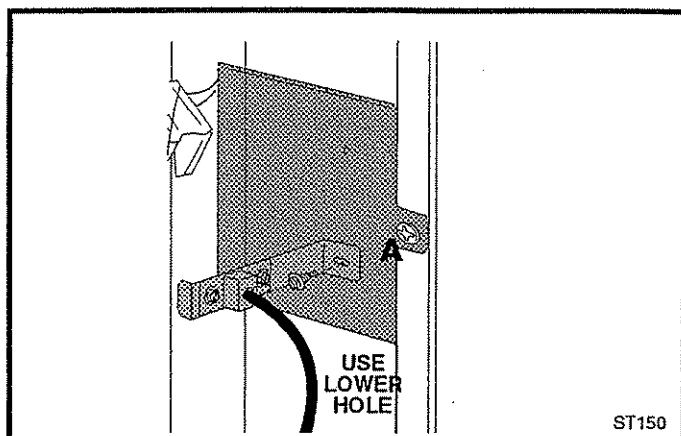

Fig. 21 Attach the snapstat bracket to the lower hole on the inside face of the side heat shield.
- 5. Attach the snapstat bracket** to the lower hole on the inside face of one of the side heat shields using a sheet metal screw and #8 star washer. Choose the side from which the snapstat wire harness exits the fan housing. You may find it easier to remove the heat shield from the stove body before attaching the bracket to it. (Fig. 21)